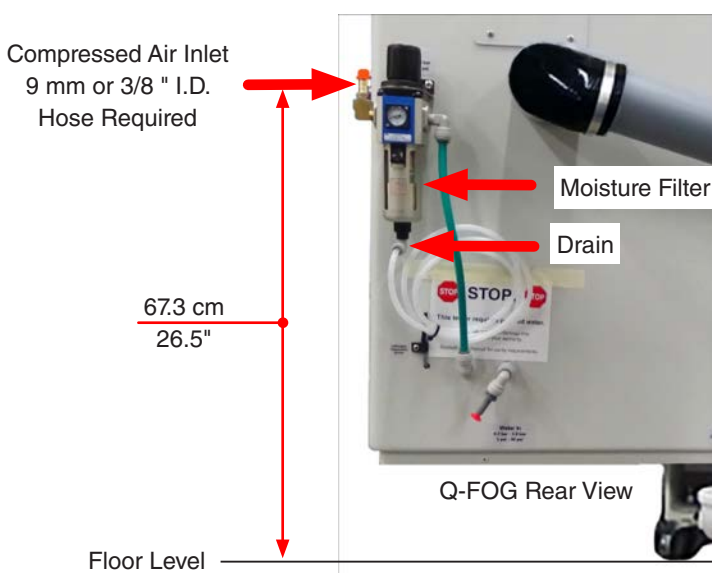

Figure 5.6a: Compressed air connection.
- The Q-FOG is equipped with a moisture filter to improve the incoming compressed air quality (Figure 5.6a).
- A 9 mm or a 3/8 " inside diameter (ID) compressed air supply hose is required to connect to the air inlet at the rear of the cabinet (Figure 5.6a).